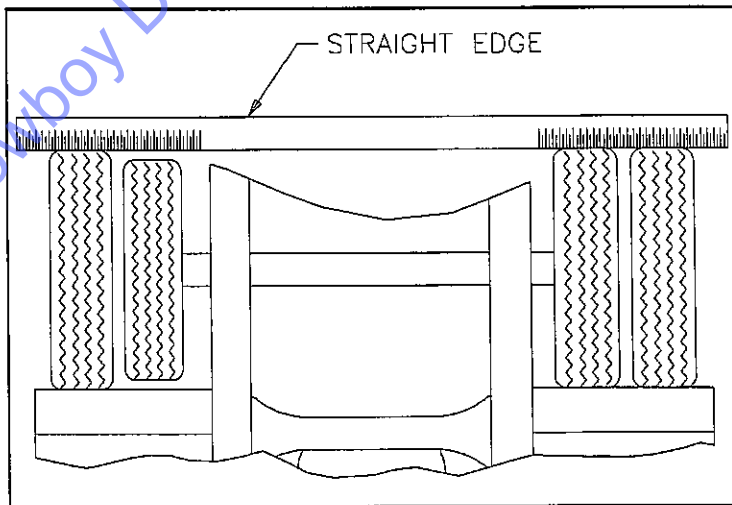

Fig. 4-18 Straight Edge Method
b. Straight Edge or String Method: (This method can not be used if tire and wheel assemblies are not mounted on the axle.) Jack semitrailer up until the wheels are off of the ground. Hold a straight edge against the tires of both ends of an axle. A gap at one tire indicates a smaller tire. A maximum of $1/8"$ gap is allowed (See **Figure 4-18**).